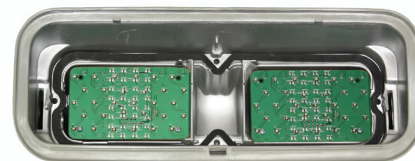

Figure 2
- 4.2. For each housing, place the appropriate LED panel into the proper back housing lighting cell, tuck all wires & bulb base into the housing and position the LED panel fully in the housing and centered into the lighting cell cavity. (See Figure 2) While holding position, transfer the location of the holes onto the aluminum mounting tabs. Remove the LED panel and drill a 3/32" hole at the marked location on the mounting tabs.